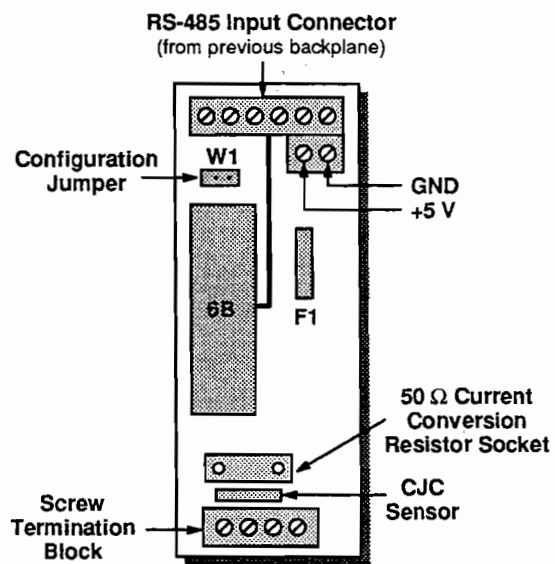

Figure 1-4. 6BP01-1 Backplane
- **6BP01-1 Backplane** - The 6BP01-1 backplane, shown in Figure 1-4, is a single-channel backplane. It has one RS-485 input connector for connecting to the previous 6B Series backplane or 6B50 digital I/O board in a network. (Note that since the 6BP01-1 backplane does not contain an RS-485 output connector, you cannot connect the 6BP01-1 to any backplanes or boards farther in the network.)